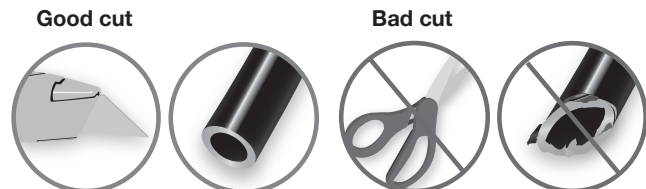

Fig. 10
2. If installing a single-path air line, choose a location for the tee fitting (J) on the wheel well or rear bumper. Determine and cut adequate length of air line (C) to reach to the tee from left and right side air springs. Make clean, square cuts with a razor blade or hose cutter (Fig. 10). Do not use scissors or wire cutters.